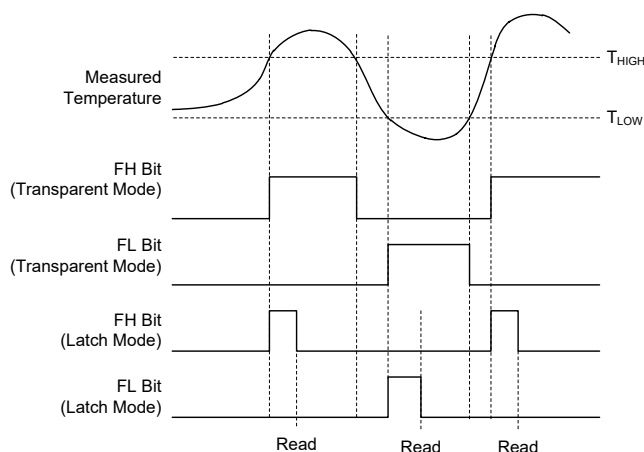

Figure 9. Temperature Flag Functional Diagram
There is a watchdog function inside the SGM458 to check if the measured temperature is higher than the upper threshold or lower threshold of the device through T_{HIGH} and T_{LOW} registers. The flag-high bit (FH) is set to high if the measured temperature is higher than T_{HIGH} , and the flag-low bit (FL) is set to high if the measured temperature is lower than T_{LOW} . For the normal measurement case, if both FH and FL bit are set to low state, it means that the measured temperature is lower than T_{HIGH} and higher than T_{LOW} . The above three different cases are shown in Figure 9.